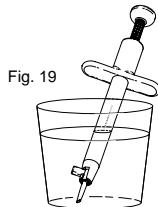

Fig. 19
- The fully assembled injector is placed tip down into a container of BSS to maintain lens hydration. (Fig.19)